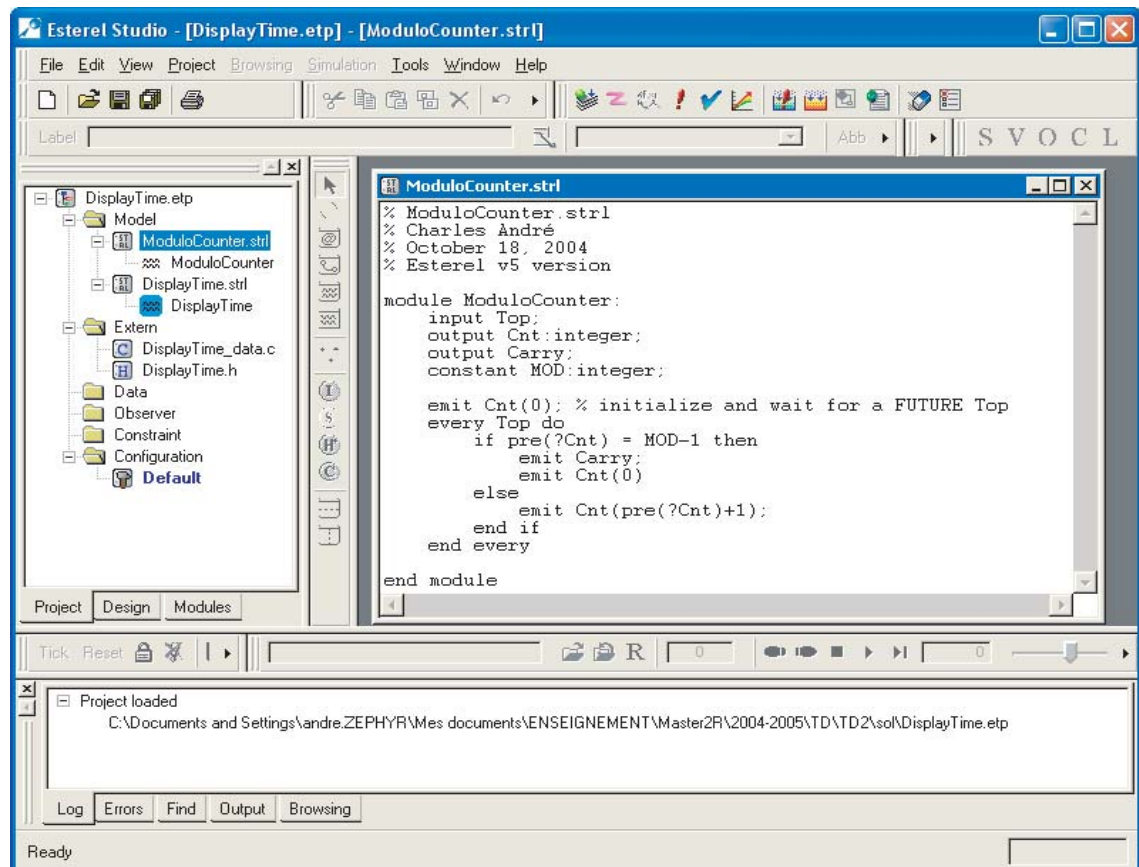

Figure 1: DisplayTime project.
2. Add these files to the project in the Extern folder (see Fig. 1).